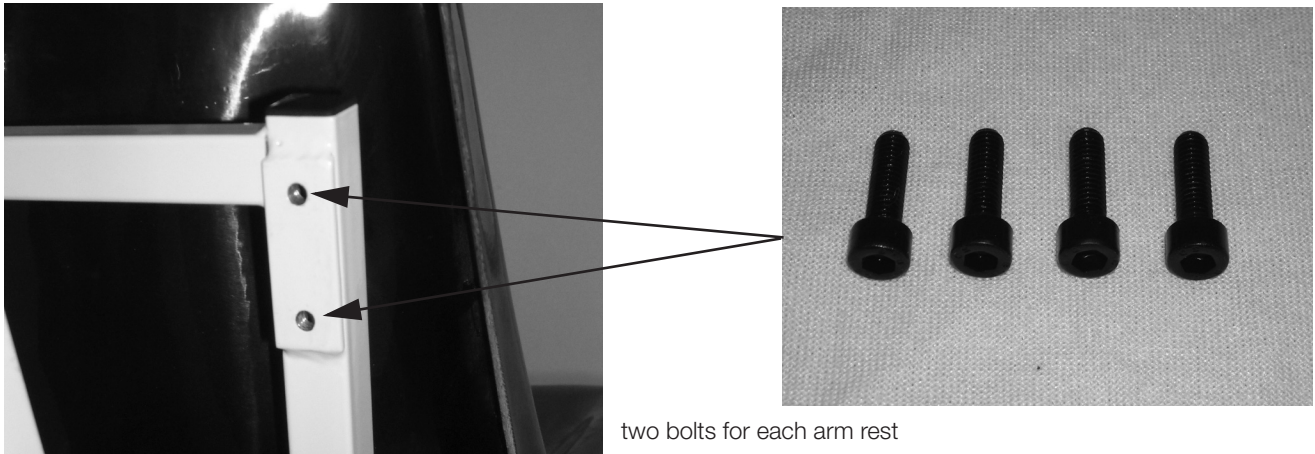

Figure 2-13. Hole Location and Four Bolts Used for Securing Arm Rest to Chair
2. Secure the arm rests to the molded chair using the four bolts (provided and shown in Figure 2-13), using the 5mm allen wrench that's been provided in this packaging.